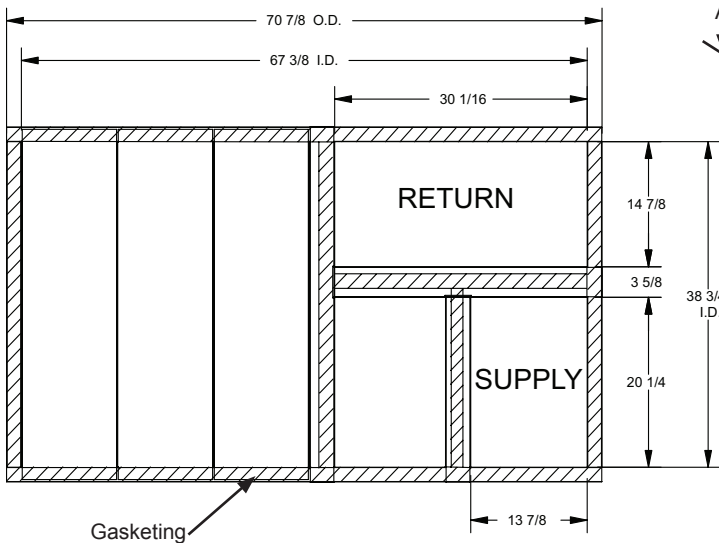

Figure 6 - Top View
STEP 6: After plenum installation, add provided gasket to top perimeter as shown in figure 6.